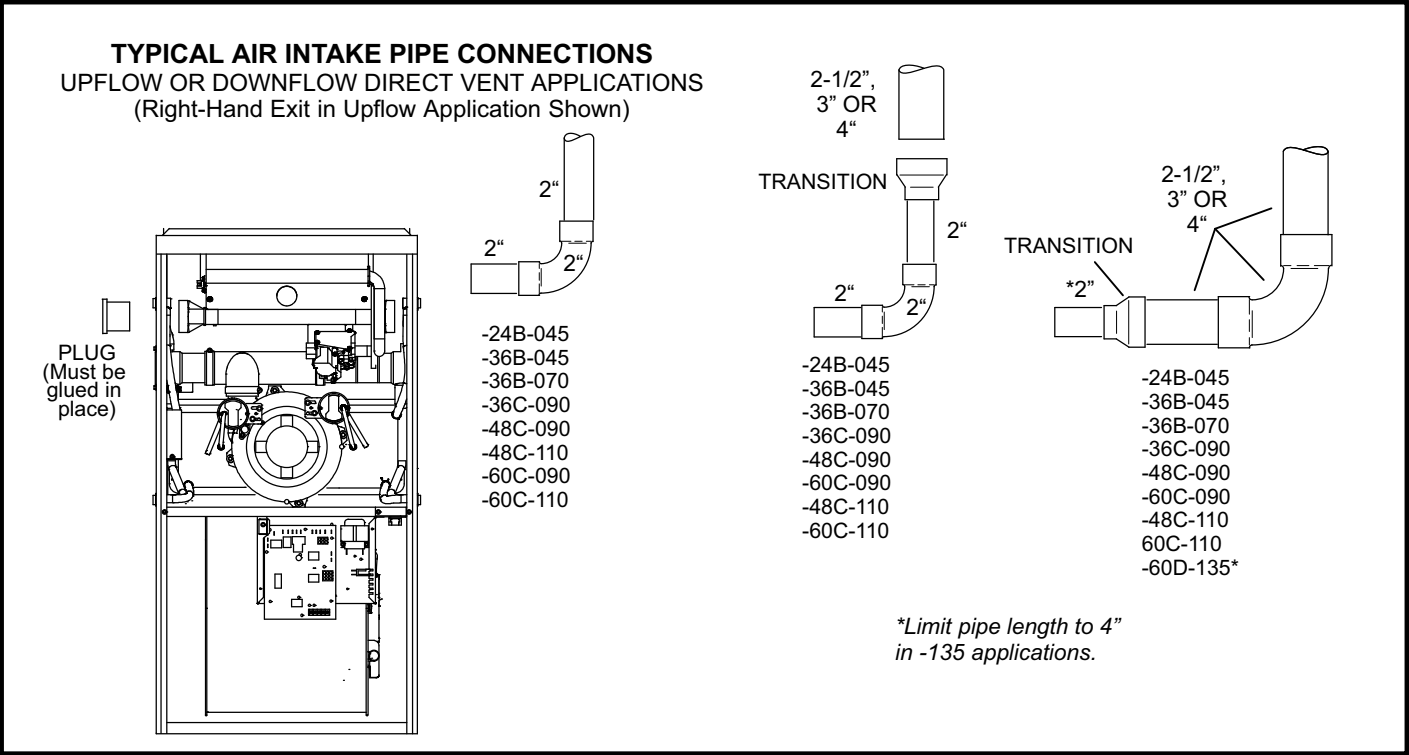

FIGURE 25
- 4 - Route piping to outside of structure. Continue with installation following instructions given in general guide lines for piping terminations and in intake and exhaust piping terminations for direct vent sections. Refer to figure 25 for pipe sizes.